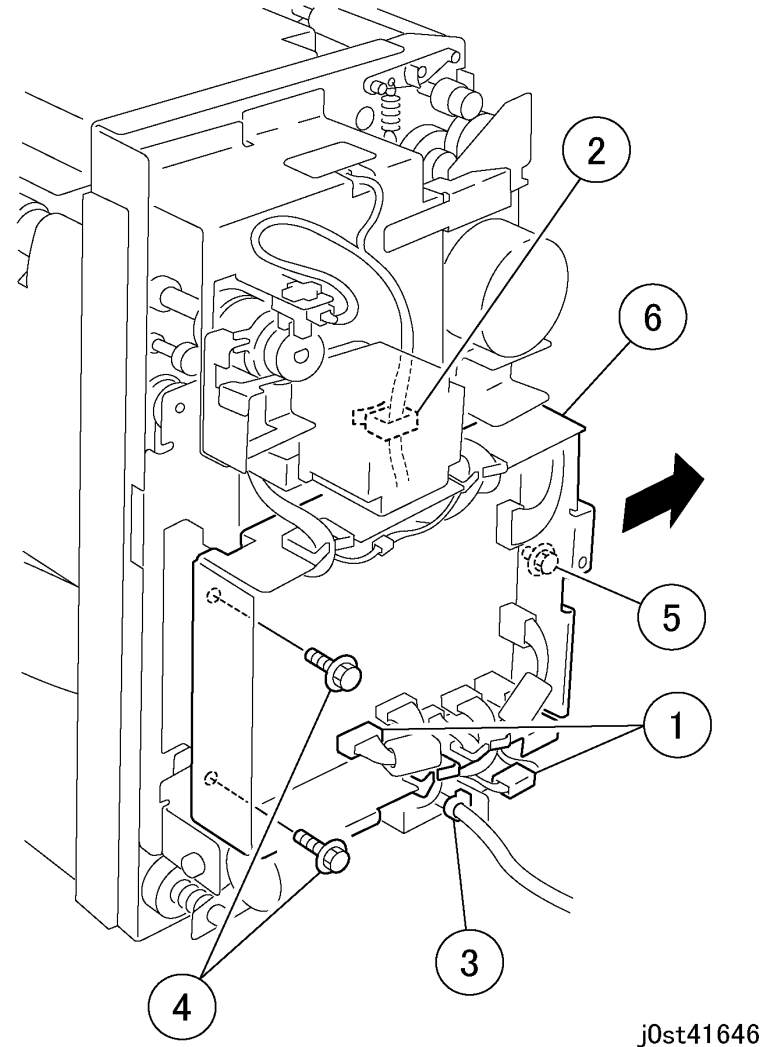

Figure 2 Moving the PWB Bracket (j0st41646)
3. Slide the PWB Bracket sideways. (Figure 2)